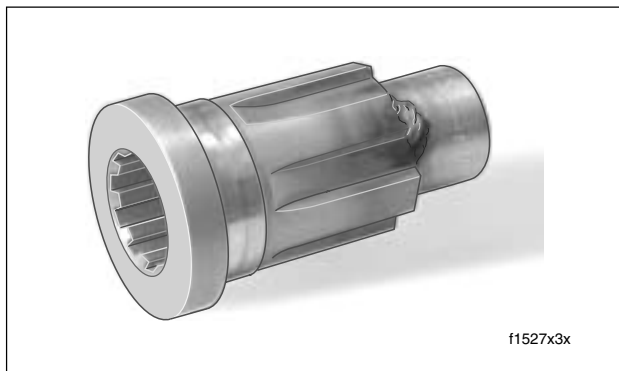

Figure 3-23. Sprocket Shaft Engine Rotation Tool
- c. With engine mounted in engine stand - Fashion tool as follows: Obtain used or discarded compensating sprocket shaft extension (HD-40266-85). Weld a 13/16 inch socket with a 1/2 inch drive to outboard side of extension. See Figure 3-23. Install tool on sprocket shaft and rotate in a counterclockwise direction until the base circle is found. See step 6(d) to find the base circle.